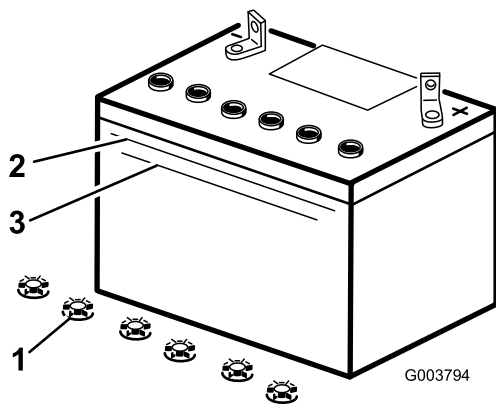

Figure 37
2. Look at the side of the battery. The electrolyte must be up to the Upper line (Figure 37). Do not allow the electrolyte to fall below the Lower line (Figure 37).
3. Remove the filler caps from the battery (Figure 37).
4. Slowly pour distilled water into each battery cell until the electrolyte level is up to the Upper line (Figure 37) on the battery case.
level is up to the Upper line (Figure 37) on the battery case.